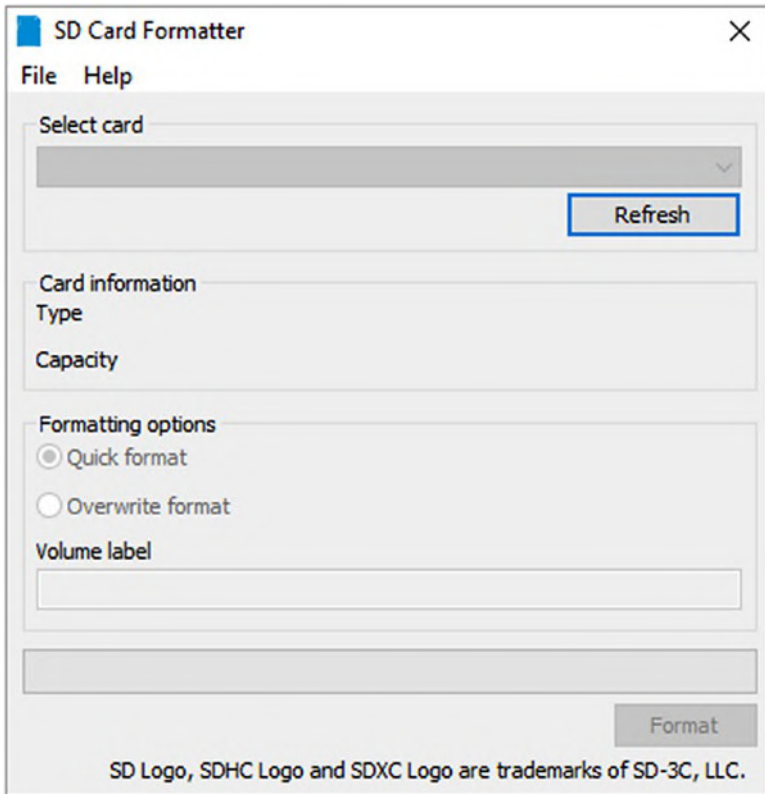

Figure 2-2. SD Card Formatter
8. If you have downloaded and installed SDFormatter, open it. You should see a dialog box similar to the one shown in Figure 2-2.